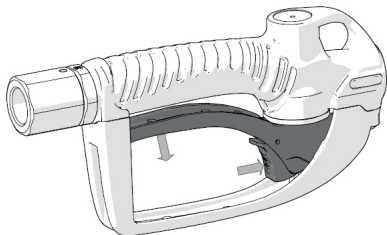

Fig. 3
3. Release the trigger holding the button down until it locks (fig. 3).